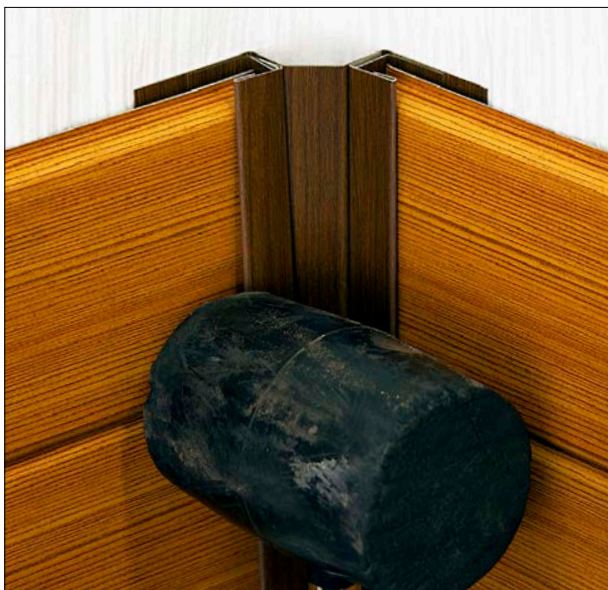

Fig.82
Step 6: Place the other end of the Snap-T corner in channel and gently into place tap with rubber mallet (Fig.82).